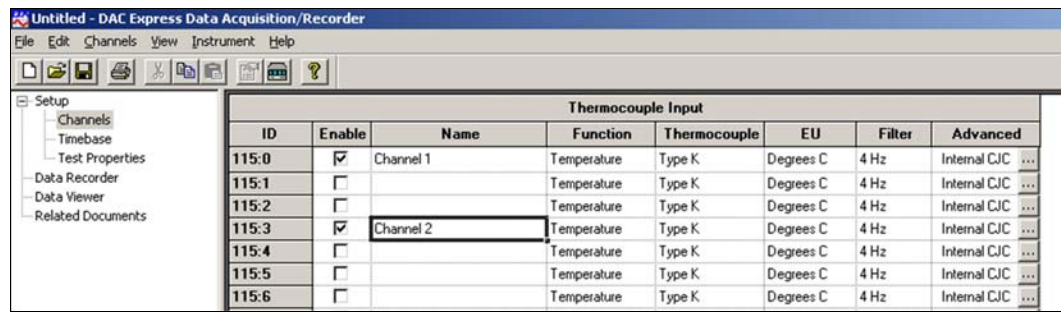

FIGURE 3-6: EX1048 CHANNEL CONFIGURATION
- b) Select the desired channel by clicking on the appropriate **Enable** check box and configure the channels as needed (see Figure 3-6).